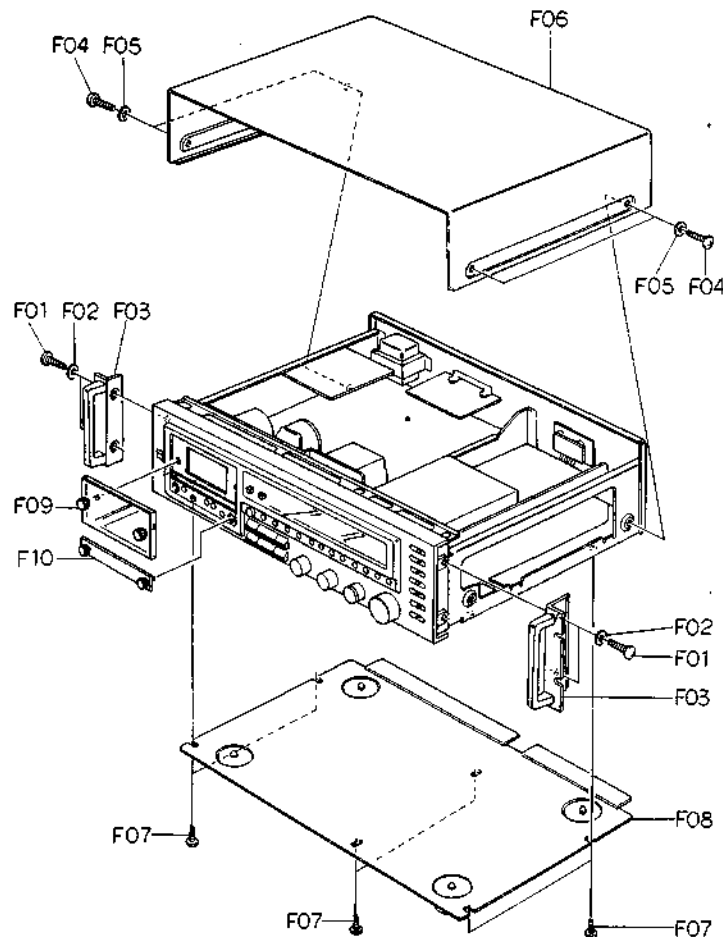

Fig. 2.1
Refer to Fig. 2.1.
(1) Refer to Fig. 2.1. Remove Top Cover Ass'y and Bottom Cover Ass'y referring to items 2.2 and 2.3.
(2) Pull out F01 (Volume Knob A), F02 (Volume Knob L), F03 (Volume Knob R), F04 (Volume Knob B) and F05 (Pitch Control Knob).
(3) Remove F06, F07 and F08, then disassemble F09 (Front Panel Ass'y including 2 connectors).
- (1) Refer to Fig. 2.1. Remove Top Cover Ass'y and Bottom Cover Ass'y referring to items 2.2 and 2.3.
- (2) Remove F01 and F02, then disassemble F03 (Rear Panel Ass'y).
- (2) Remove F04 and F05, then disassemble F06 (Power Transformer) and F07 (Transformer Plate).
- (3) Remove F08 and F09, then disassemble F10 (Fuse P.C.B. Ass'y).